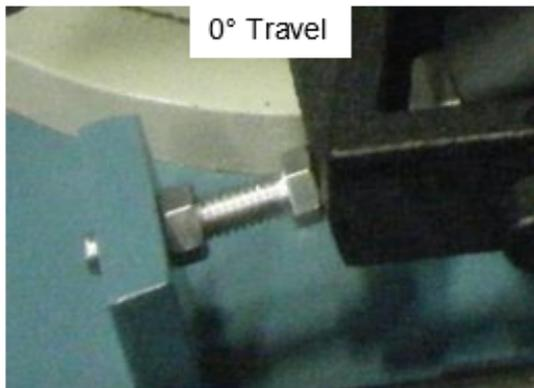

Figure 12-4
4. The two adjusting bolts shown in (fig. 12-4) are used to stop the saw bow at both 0° and 45° as indicated on the scale.